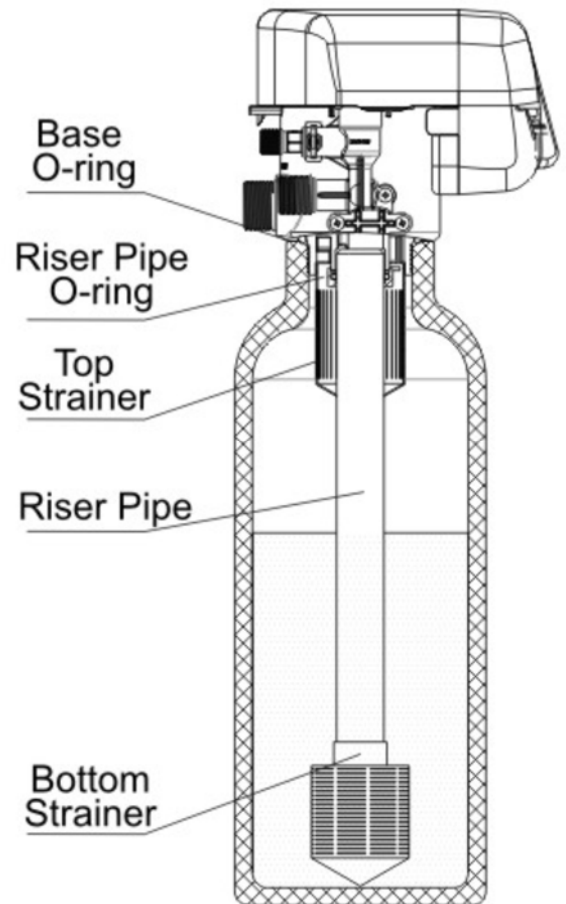

Figure 5-1
1. As Figure 5-1 shows; insert a 1.05" OD riser pipe with bottom basket into the center of the pressure tank. If pipe is higher than the top of the pressure tank, mark it, remove from tank, and cut. Take care to keep foreign material out of the pressure tank.